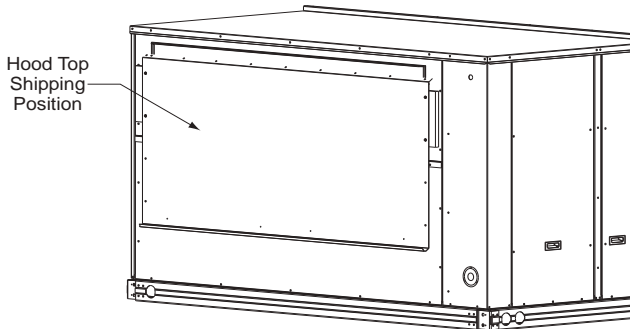
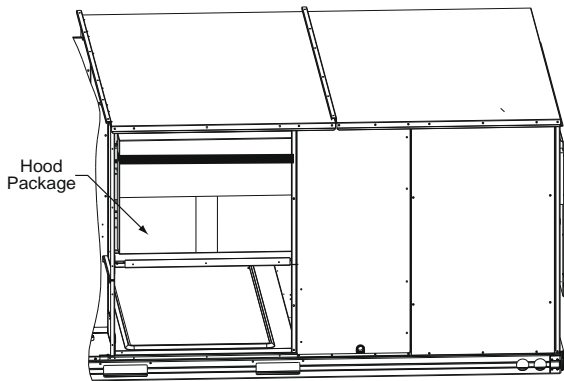

Fig. 13 — Hood Top — Shipping Position
Fig. 14 — Hood Package — Shipping Location
Step 8 — Install Outside Air Hood (Factory-Option) — The outside air hood for factory-option economizer and two-position damper is shipped in knock-down form and requires field assembly. The panel for the hood top is shipped on the end of the unit (see Fig. 13). The remaining parts for the hood assembly (including side panels, filters and tracks) are shipped in a carton that is secured to the rear of the blower assembly. Access the carton location through rear panel (see Fig. 14).